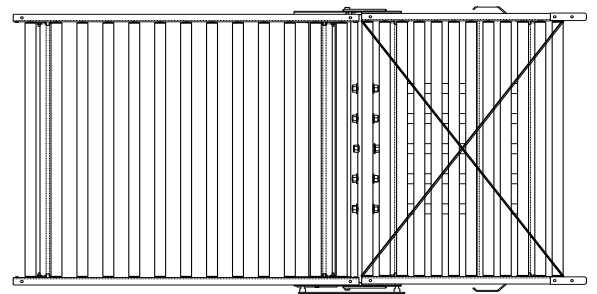

Figure 3.1 – Check the bed for squareness
- Check the gate bed section for square. See Figure 3.1. Use a string stretched from opposing corners at edge of bed to